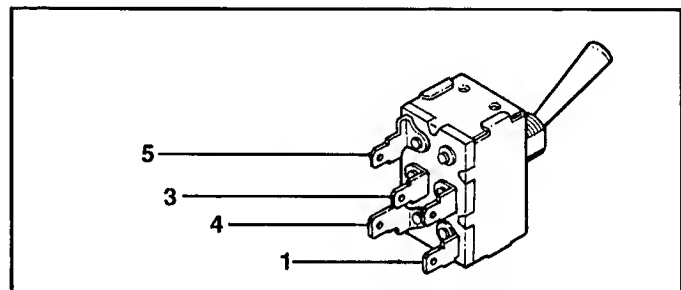

FIGURE 3.11
1. Disconnect wires from the switch terminals. See Figure 3.11.